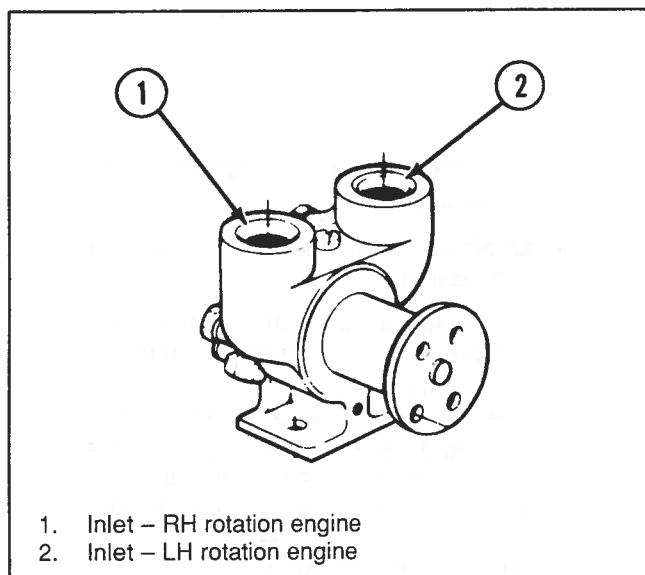

Figure 10-10. Raw-Water-Pump-Flow Hookup
3. Install inlet and outlet hoses and tighten clamps (see Figure 10-10).